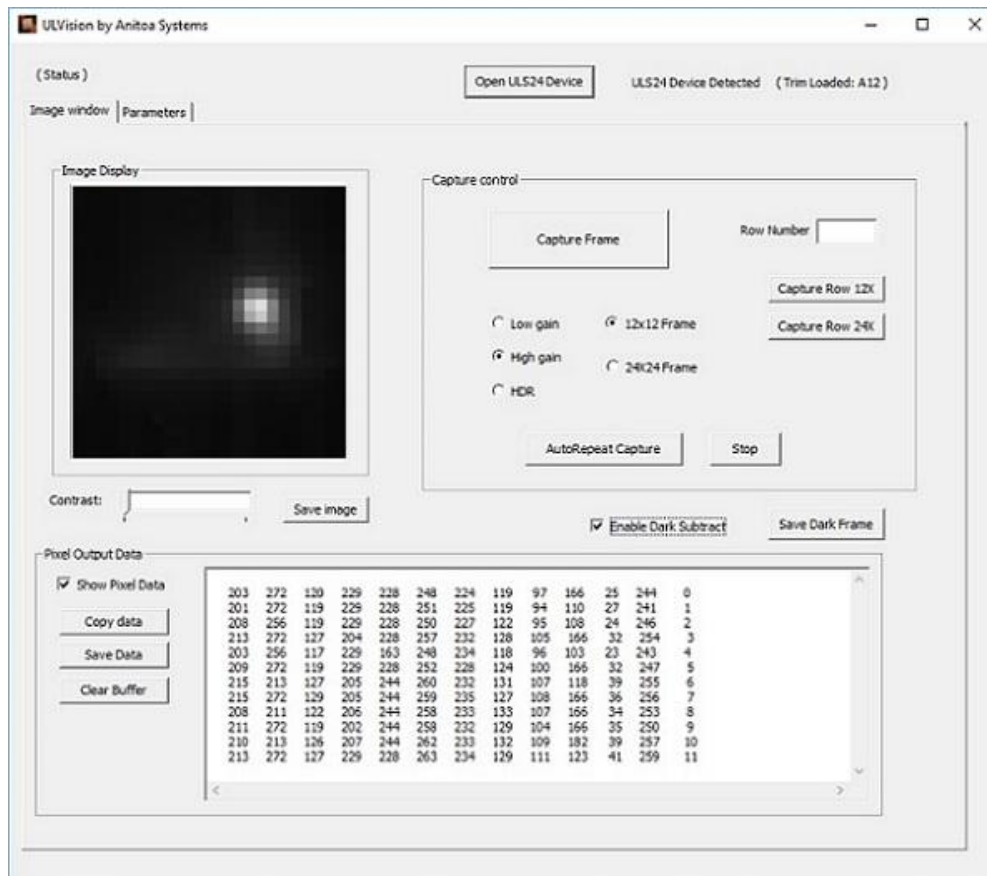

Figure 2 ULVision PC Software screen shot
5. Start ULVision on the PC. You should see the program starts in in figure 2. If the uC Interface board is already plugged in, it will automatically connect to ULVision. The status should display "ULS24 Device Detected".